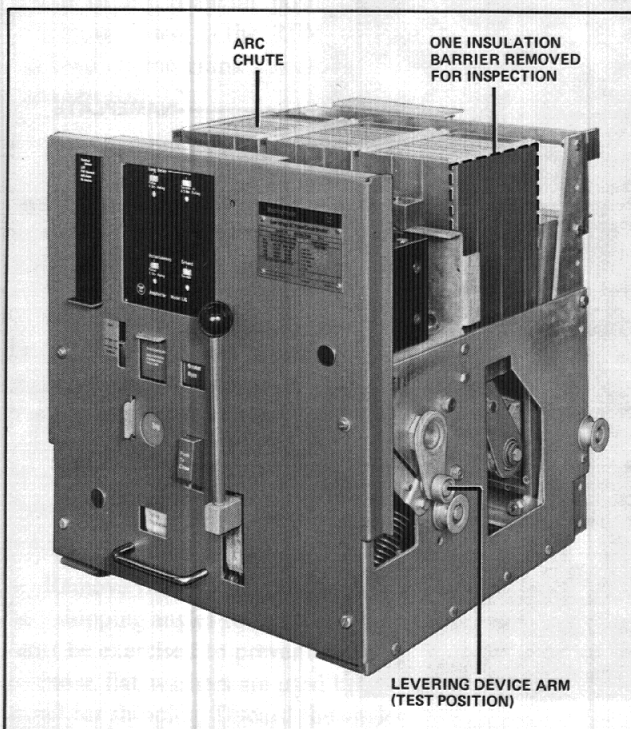
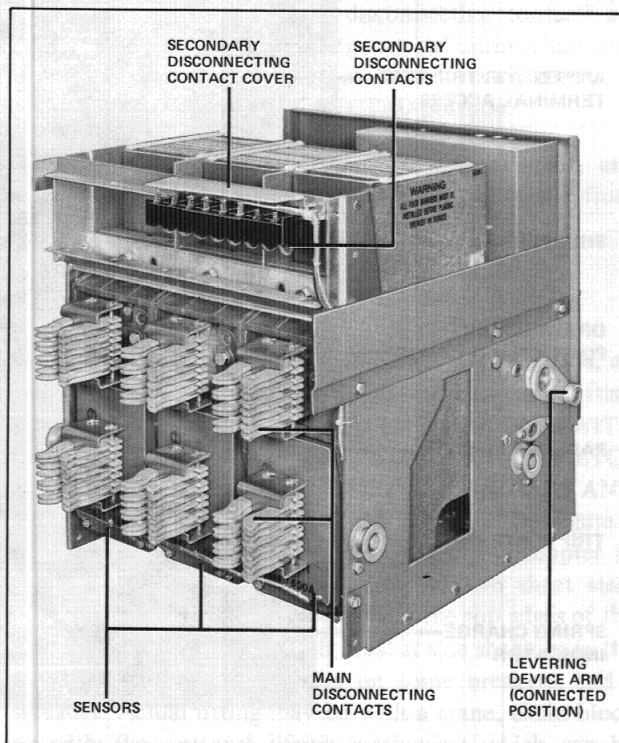

Fig. 7 Right Side Showing Levering Device Arm in TEST Position (391068)
Fig. 8 Rear View Showing Levering Device Arm in CONNECT Position (391067)
3. The TEST position, Figure 7.
4. The CONNECT position, Figure 8.
Continued rotation of the crank in the clockwise direction moves the arms downward to the vertical position, and the indicator will show "TEST" as in Figure 7. The shutter will rise.
Further clockwise rotation of the crank handle rotates the arms to the CONNECT position. This is about 65 degrees from the test position, as shown in Figure 8. When this position is reached, the crank suddenly becomes hard to turn. At this point, stop turning the crank, as the worm shaft bottoms in the tapped hole of the stop nut.
2. The levering arms are in either the TEST position, as in Figure 7 or in the CONNECT position, Figure 8.